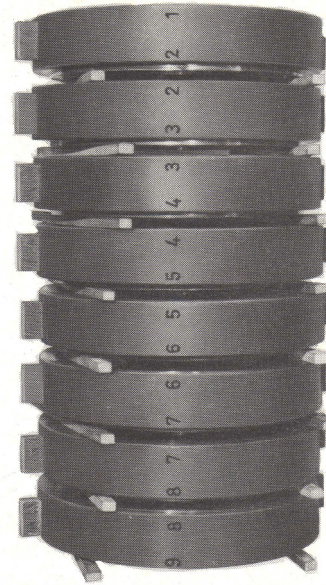

Figure 29 – Stacking the stage casings
Before dismantling, match-mark the stage casings (108) so they can be reassembled in the same order and position (see fig. 29).
8. Pull last stage impeller (230) off the shaft.
9. Remove the stage casings (108) together with the diffusers (171.1), stage sleeves (521) and impellers (230/231) off the following stages.
10. After the last stage casing (108), has been dismantled, draw the shaft (210) with first stage impeller (230 / 231) out of the suction casing (106) then pull the impeller (230 / 231) off the shaft (210).
11. Stack the stage casings (108) carefully so that the seal faces cannot be damaged (see fig 29).